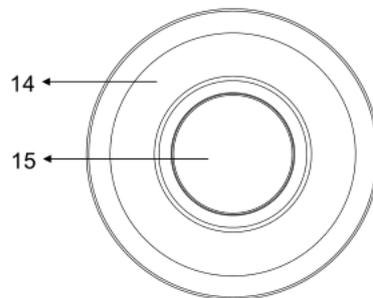

Figure 8. Components - Front View
- ① **Open the cover - See Figure 8:** Rotate the cover counterclockwise to take off the cover.
- ② **Install the cover - See Figure 8:** Put the cover to the correct slot and rotate the cover clockwise.